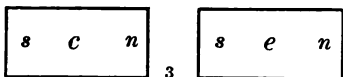

FIG. 198
**306. Laws of Attraction and Repulsion.**—Take two flat permanent magnets, *c* and *e*, and place them end to end as in (1) (Fig. 198); suppose they *attract* each other. Now turn *e* so that its other pole is toward the same pole of *c*, as in (2); the magnets do not now